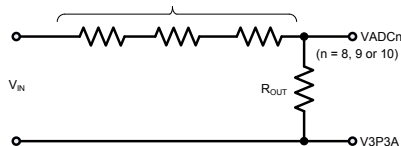
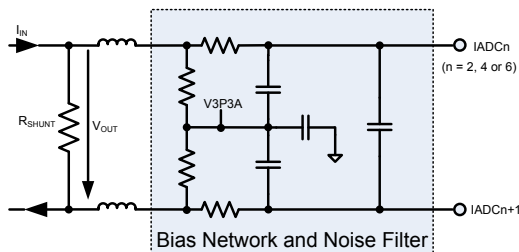
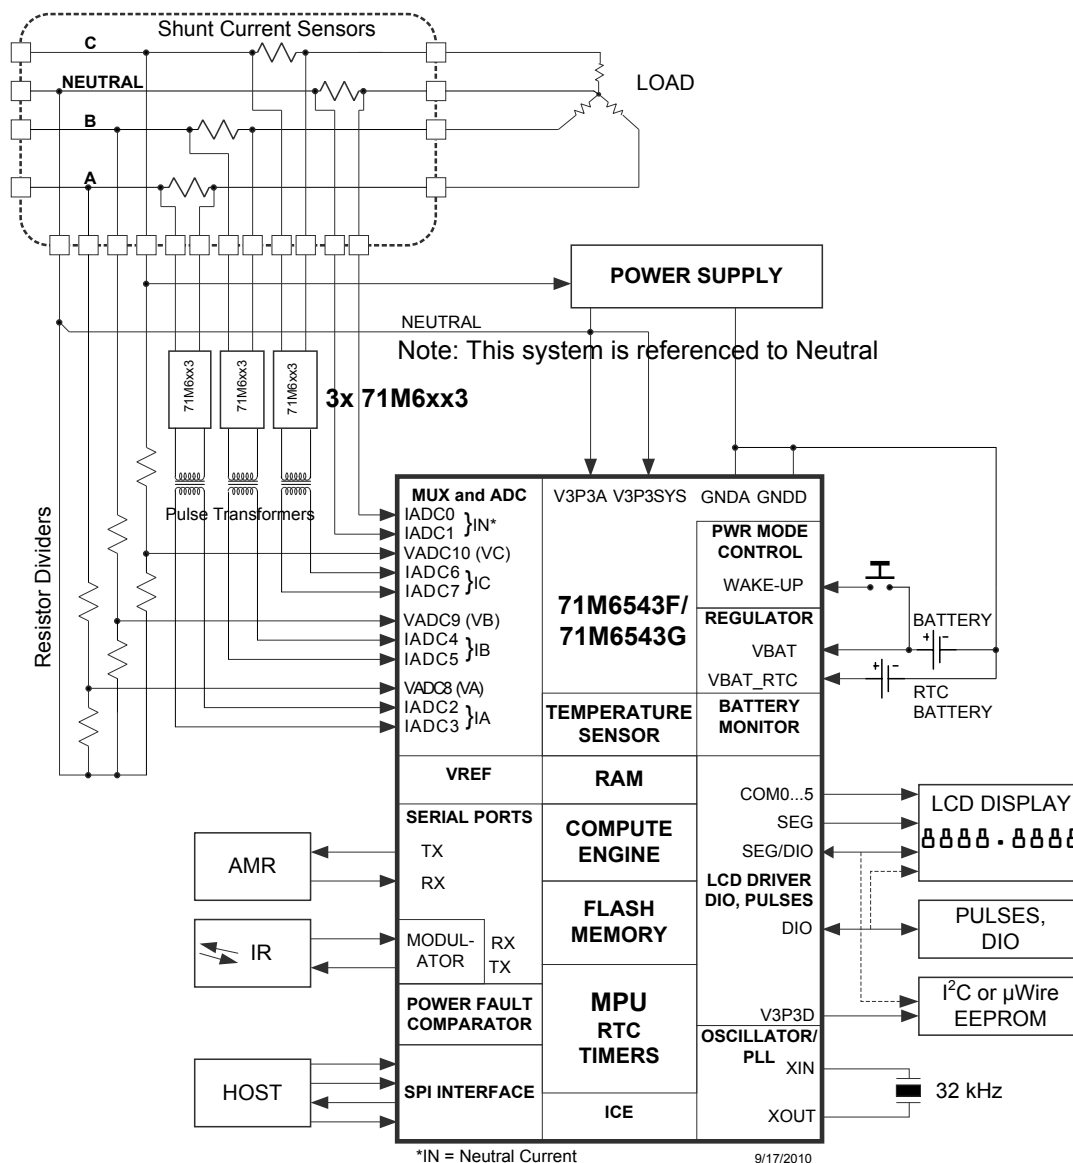
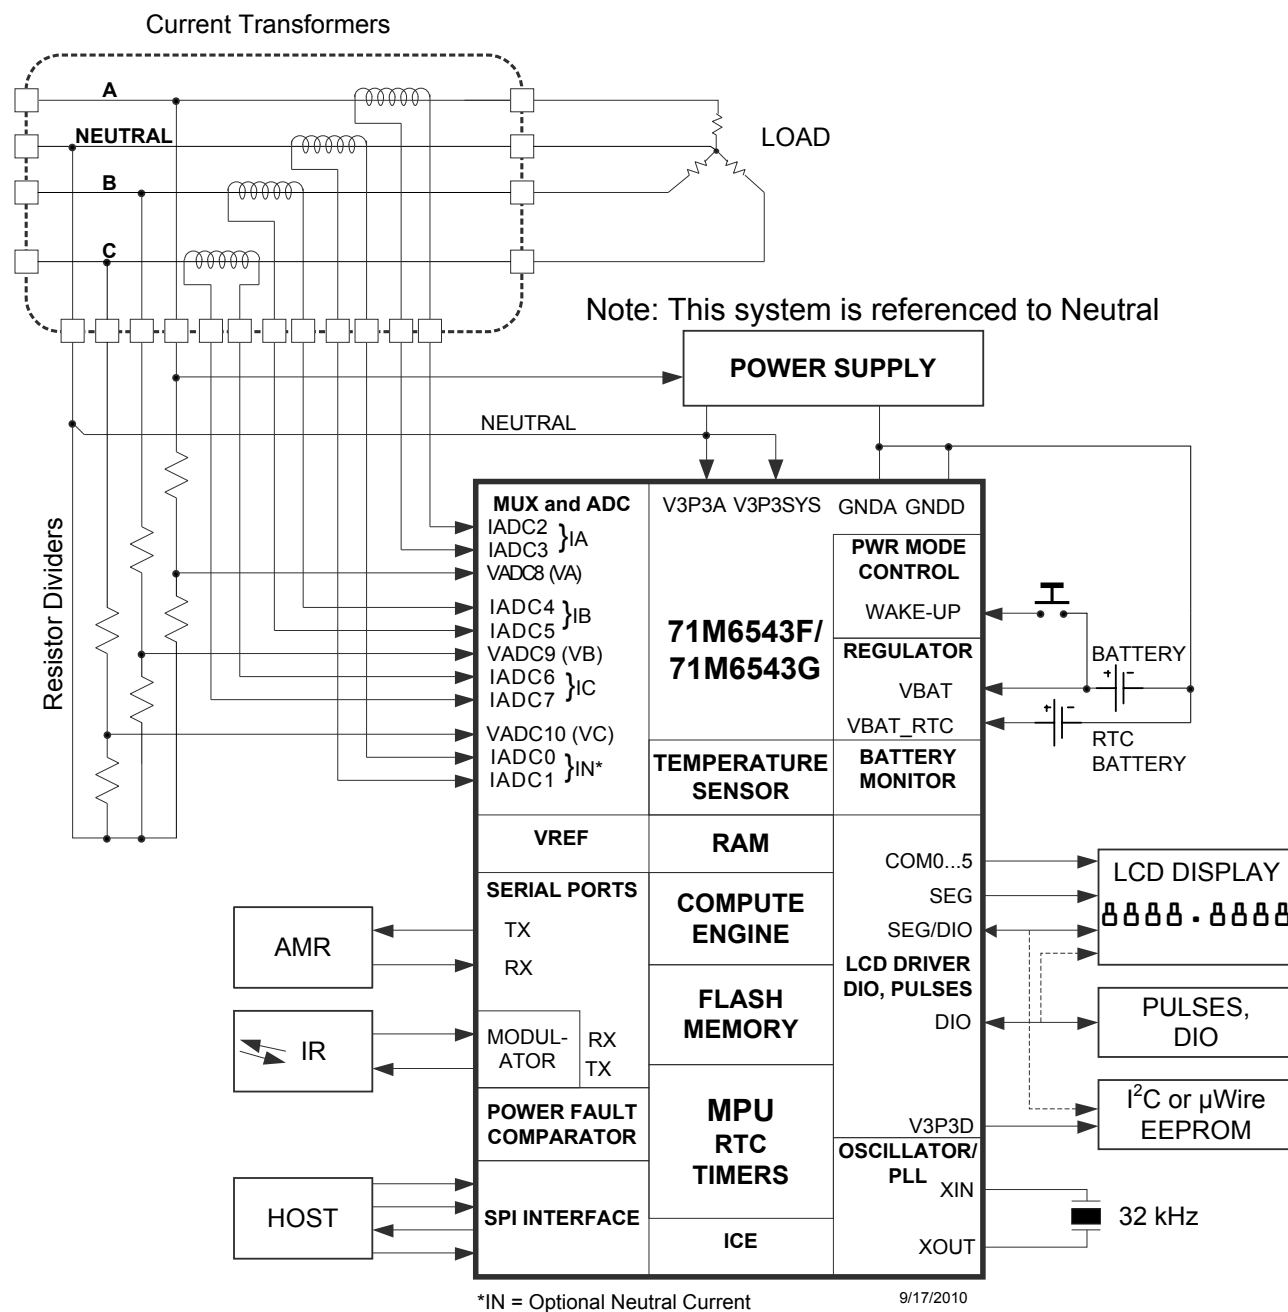

Figure 27: Resistive Voltage Divider (Voltage Sensing)
Figure 30: Differential Resistive Shunt Connections (Current Sensing)
Figure 31: System Using Three-Remotes and One-Local (Neutral) Sensor
Figure 32. System Using Current Transformers
Figure 27 through Figure 30 show voltage-sensing resistive dividers, current-sensing current transformers (CTs) and current-sensing resistive shunts and how they are connected to the voltage and current inputs of the 71M6543. All input signals to the 71M6543 sensor inputs are voltage signals providing a scaled representation of either a sensed voltage or current.
Figure 31 shows a typical connection for current shunt sensors; using the 71M6xx3 (polyphase) isolated sensors. Note that one shunt current sensor is connected without isolation, which is the neutral current sensor in this example (connected to pins IADC0-IADC1). Each 71M6xx3 device is electrically isolated by a low-cost pulse transformer. The 71M6543 current sensor inputs must be configured for remote sensor communications, as described in 2.2.8 71M6xx3 Isolated Sensor Interface (page 22). Flexible remapping using the I/O RAM registers *MUXn_SEL[3:0]* allows the sequence of analog input pins to be different from the standard configuration (a corresponding CE code must be used). See Figure 2 for the AFE configuration corresponding to Figure 31.
Figure 32 shows a polyphase system using four current transformers to support optional Neutral current sensing for anti-tamper purposes. The Neutral current sensing CT can be omitted if Neutral current sensing is not required. The system is referenced to Neutral (i.e., the Neutral rail is tied to V3P3A and V3P3SYS).
This section discusses metrology temperature compensation for the meter designs where current shunt sensors are used in conjunction with the 71M6xx3 remote isolated sensors, as shown in Figure 31.
Referring to Figure 31, the VADC8 (VA), VADC9 (VB) and VADC10 (VC) voltage sensors are always directly connected to the 71M6543. Thus, the precision of the voltage sensors is primarily affected by VREF in the 71M6543. The temperature coefficient of the resistors used to implement the voltage dividers for the voltage sensors (see Figure 27) determine the behavior of the voltage division ratio with respect to temperature. It is recommended to use resistors with low temperature coefficients, while forming the entire voltage divider using resistors belonging to the same technology family, in order to minimize the temperature dependency of the voltage division ratio. The resistors must also have suitable voltage ratings.
Table 66 shows the five *GAIN_ADJx* equation output storage locations and the voltage or current sensor channels for which they compensate for the 1 Local / 3 Remote configuration shown in Figure 31.
Table 66: GAIN_ADJn Compensation Channels (Figure 2, Figure 31, Table 1)
This section discusses metrology temperature compensation for meter designs where Current Transformer (CT) sensors are used, as shown in Figure 32.
Referring to Figure 32, the VADC8 (VA), VADC9 (VB) and VADC10 (VC) voltage sensors are directly connected to the 71M6543. Thus, the precision of the voltage sensors is primarily affected by VREF in the 71M6543. The temperature coefficient of the resistors used to implement the voltage dividers for the voltage sensors (see Figure 27) determine the behavior of the voltage division ratio with respect to temperature. It is recommended to use resistors with low temperature coefficients, while forming the entire voltage divider using resistors belonging to the same technology family, in order to minimize the temperature dependency of the voltage division ratio. The resistors must also have suitable voltage ratings.
Table 67: $GAIN_ADJx$ Compensation Channels (Figure 3, Figure 32, Table 2)